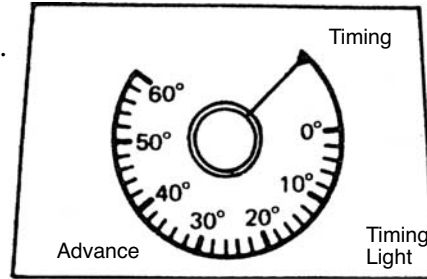

Figure 4
1. Set the knob at "timing" position as figure 4.